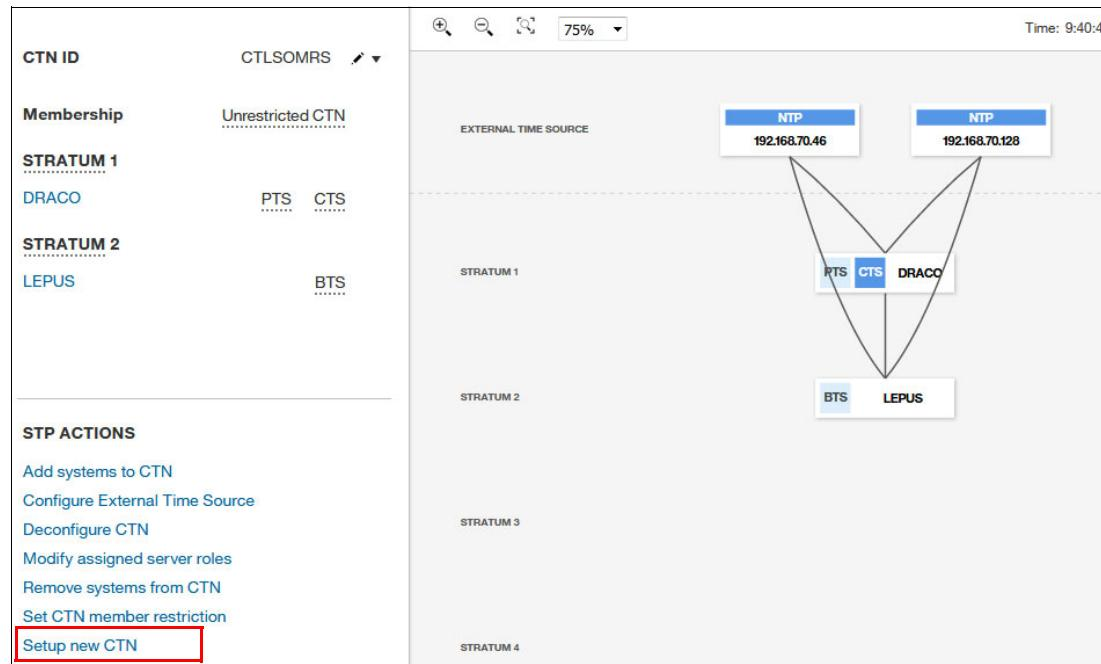

Figure 8-33 Setup new CTN
2. The Manage system Time window opens. If you already defined CPC object which configured CTN, the CTN configuration is displayed graphically. To define new CTN, select **Setup new CTN** from STP ACTIONS (Figure 8-33).
After the new CTN configuration has been completed, you can configure the ETS. In this example, we define two HMCs configured as NTP server for ETS (Figure 8-33 on page 181). If your CTN is configured with more than two CPCs, you can set individual ETS for PTS and BTS.